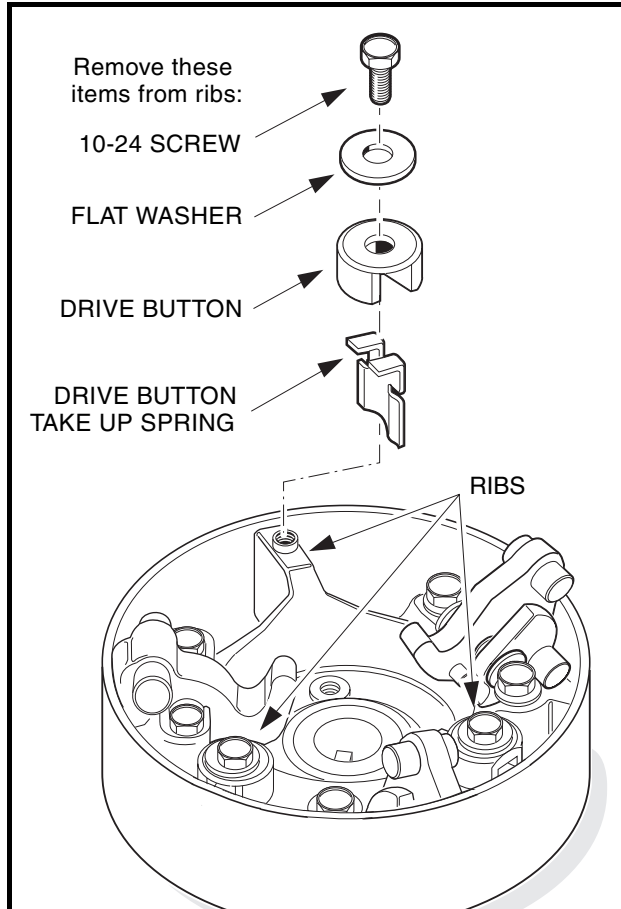

Figure 20-8 Drive Button Mounting
4. Remove the drive buttons (Figure 20-8, Page 20-8).
- 4.1. Remove the screws, flat washers, drive button take-up springs, and drive buttons as shown (Figure 20-8, Page 20-8).
14. Compress each take-up spring and install the drive button over the rib and take-up spring (**Figure 20-8, Page 20-8**).